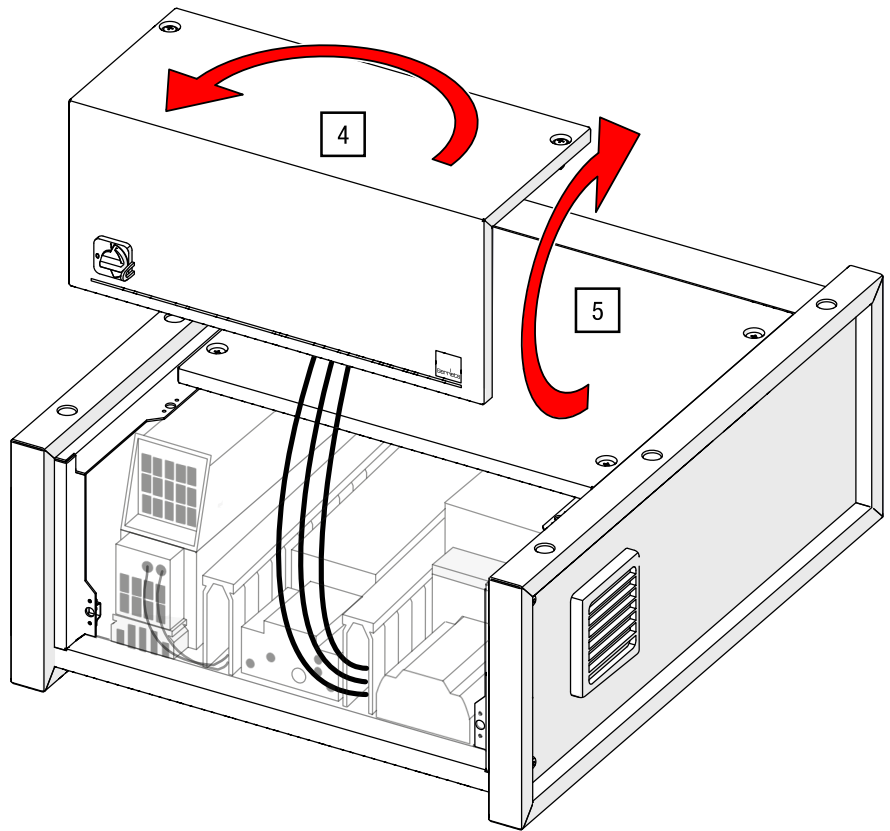
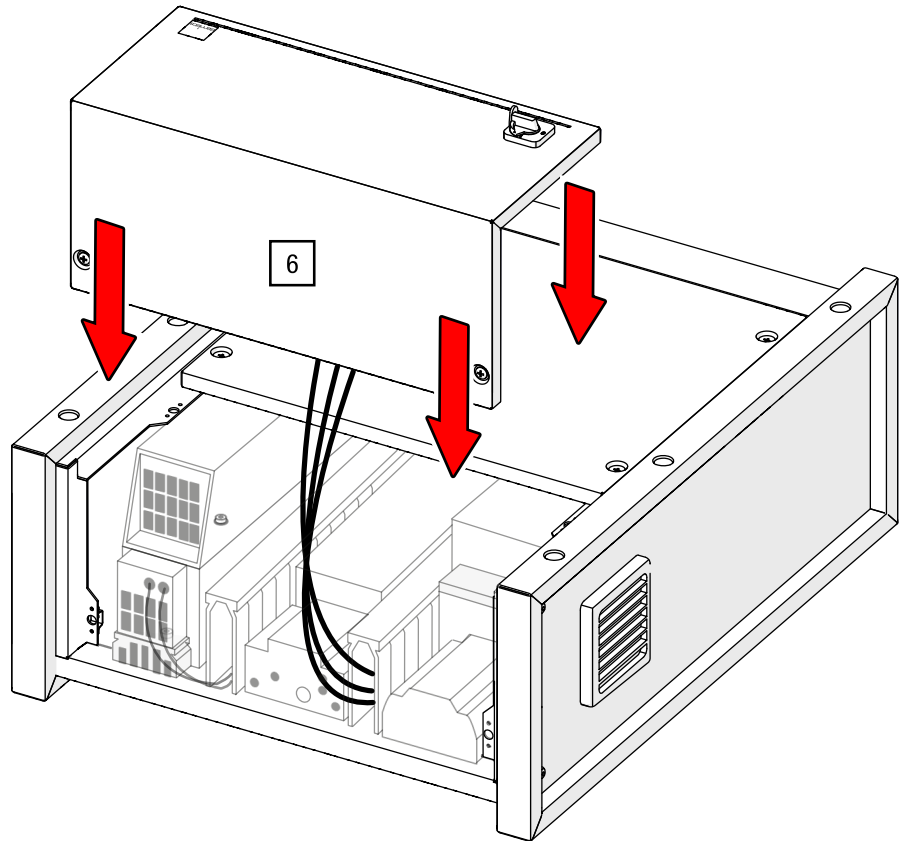

Fig. 17: Rotate detached control terminal (control model may differ)
Fig. 18: Insert terminal (control model may differ)
4. and 5. Rotate the control panel by 180° and then tilt it by 90° so that it is orientated as shown in Fig. 18 (rotation see Fig. 17).
6. Place the control panel back on the control housing (see Fig. 18).